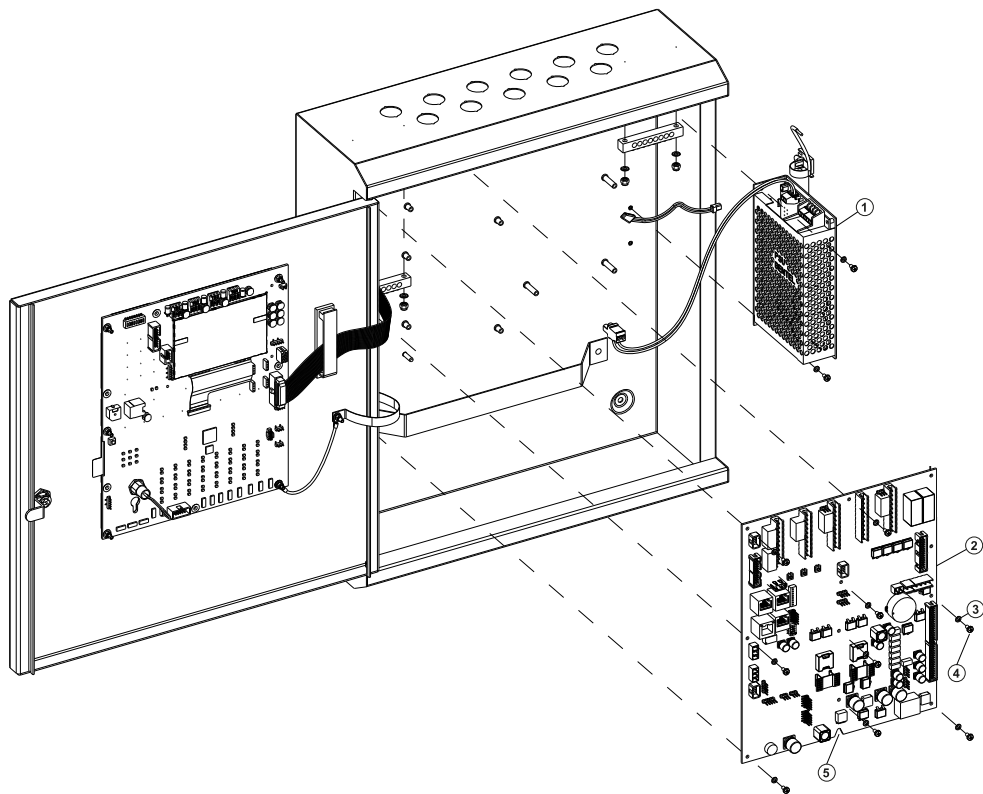

Fig. 2: FC-FI-1 in a FC602S or FC602S Scandinavian panel
- 4 Remove the existing board by unscrewing the ten sets of screws and washers attaching it to the panel housing. Refer to items 3 and 4 in Fig. 2.
- 5 To mount the new FC-FI-1 board, fit the groove at the base of the board (Item 5 in Fig. 2) into the metal dowel located at the back wall of the panel housing.